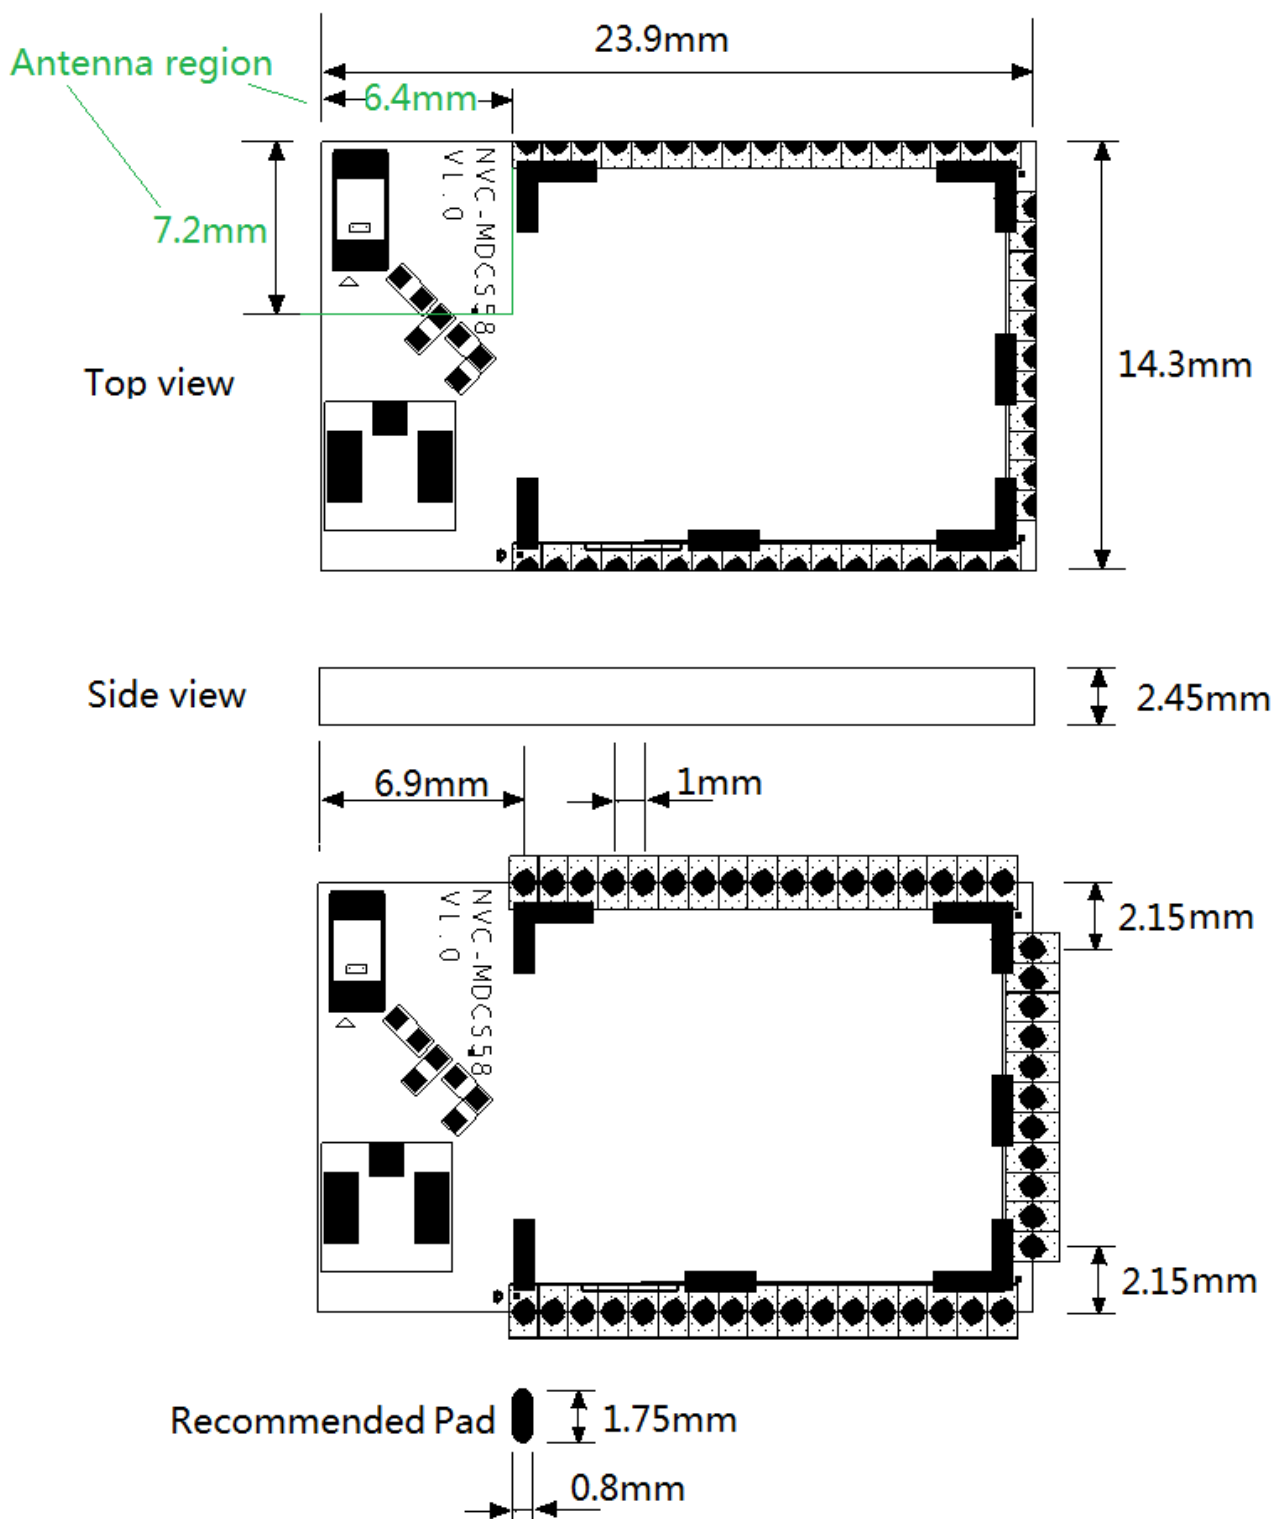

Figure 7: Mechanical Size and Recommended PCB Footprint
1. No ground below antenna region (the rectangle with green line as the boarder in Figure 7) of the NVC-MDCS58.